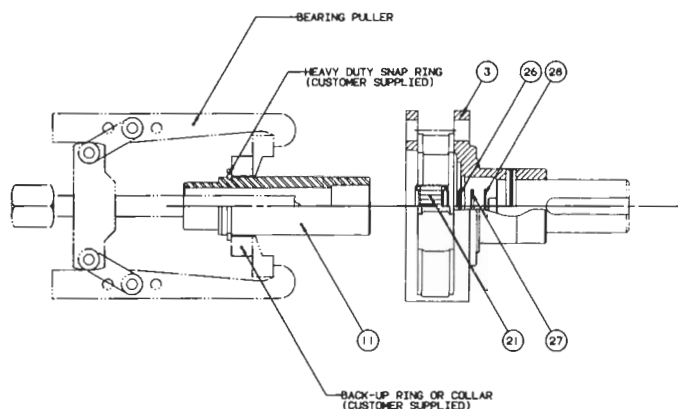

Figure 8
19. Use a bearing puller to remove the female shaft (11) from the carrier (3). A snap ring groove is provided so that a heavy-duty snap ring and a backup collar that is sufficiently thick and rigid can be used to free the female shaft (11) (customer-supplied snap ring and backup collar). See Figure 8.
20. Press needle bearing (21) from the female shaft (11). See Figure 8.